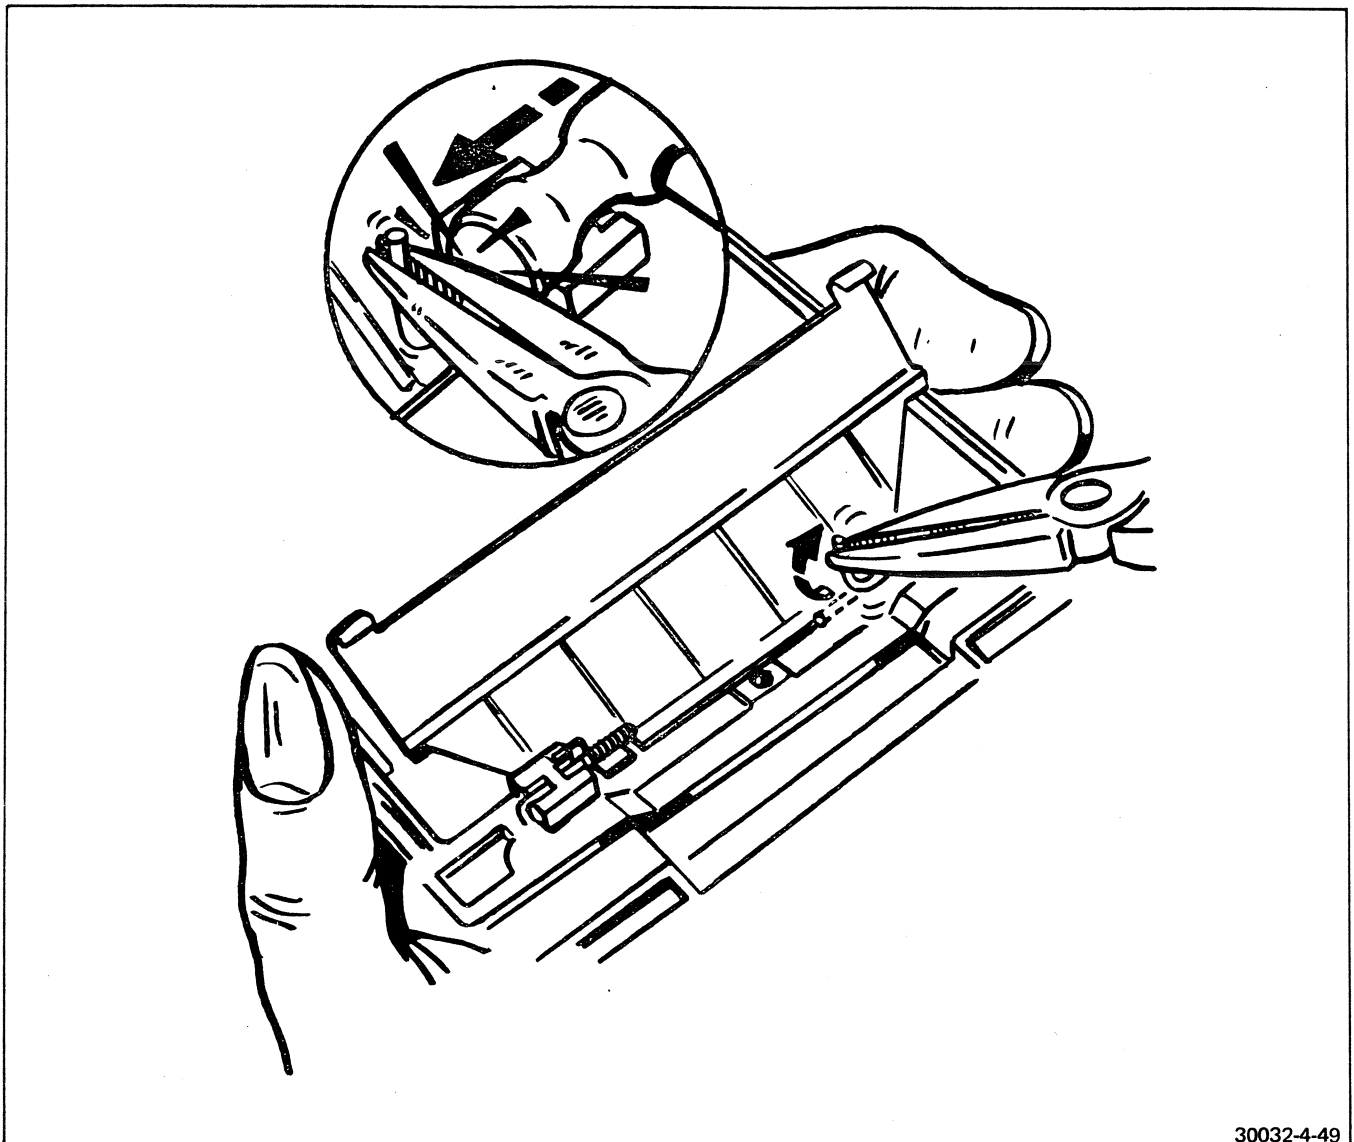

FIGURE 4-49 REMOVING LIGHT BAFFLE HINGE PIN
16. Use duck-bill or needle-nose pliers. Grasp light baffle hinge pin and bend it to a 90° angle. See Figure 4-49. Use a small peen hammer and knock the pins inboard striking the tool holding the bent end of the pin. Remove left-hand (viewed from rear) pin first. Remove spring and lite baffle by sliding off the right-hand pin.